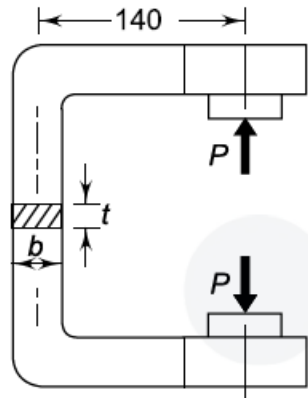

Figure: 5.5
8. Fig 5.5 shows a C-clamp, which carries a load  $P$  of 25 kN. The cross-section of the clamp is rectangular and the ratio of width to thickness ( $b/t$ ) is 2:1. The clamp is made of cast steel of Grade 20-40 ( $S_{ut} = 400 \text{ N/mm}^2$ ) and the factor of safety is 4. Determine the dimensions of the cross-section of the clamp.